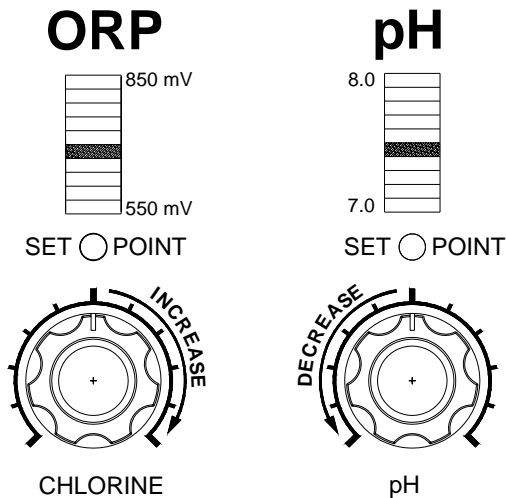

Figure 5
3. Turn the chlorine dial (ORP) counterclockwise (CCW) as far as it goes. Then slowly turn it clockwise (CW) until the set point light just goes 'on.' Then slowly turn it (CCW) until it just goes 'off.'
4. Turn pH dial clockwise (CW) as far as it goes. Then slowly turn it counterclockwise (CCW) until the set point light just goes 'on.' Then slowly turn it (CW) until it just goes 'off.'
6. After 2 hours, re-measure the alkalinity, pH, and chlorine with a test kit. Read & record the measurements from the test. Record the controller's dial settings as well as the "light bar" step levels on the controller. See Figure 5 for a typical example.